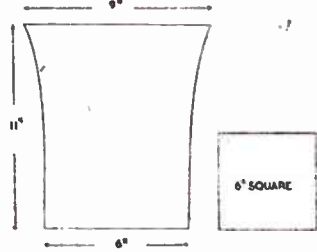
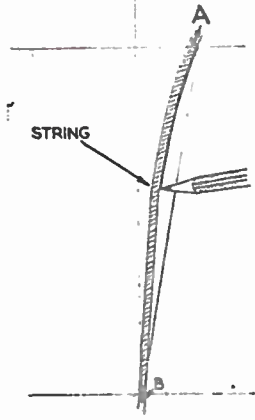

Fig. 1
Fig. 2
A base 6ins. square and four pieces for the sides measuring 9ins. by 11ins., as shown in Fig. 1, are required. The curved sides make all the difference to this basket and no difficulty will be met if you follow the instructions carefully. Reference to Fig. 2 reveals the method to adopt. Mark out a spare piece of card as shown to fit the measurements already given. Now take a piece of string and fasten at point (A) with a drawing pin. The string is then pulled quite taut and fastened at the base, point (B), with another drawing pin. With a pencil trace the curve by pushing the string inwards as far as it will stretch and continue to the bottom of the shape. If the pencil penetrates the shape too deeply, the string has not been pulled tight enough; on the other hand, if the curve is too shallow, the string is too taut. A slight adjustment will quickly